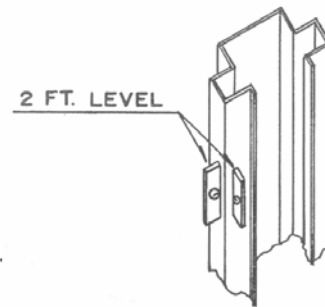
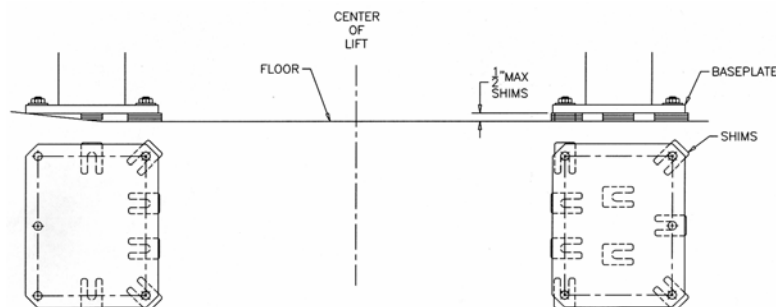

Figure 14
Figure 15 - Shims
2. Using a 2ft. level on the sides of the high column, ensure that the column is level in the vertical position (**Figure 14**). Use shims under the column baseplate to hold the column level. Ensure that the base plate is completely supported by shims where it does not contact the floor (**Figure 15**).
5. Reconfirm that the column is level front to rear and side to side (**Figure 14**). Add or remove shims as required.
1. Using a 4ft. level on top of the crossmember (**Figure 13**) and a 2ft. level on the low side column (**Figure 14**), shim underneath the baseplate until the crossmember and column are level. Ensure that the baseplate is completely supported by shims where it does not contact the floor (**Figure 15**).
4. Reconfirm that the column is level front to rear and side to side (**Figure 14**). Add or remove shims as required.